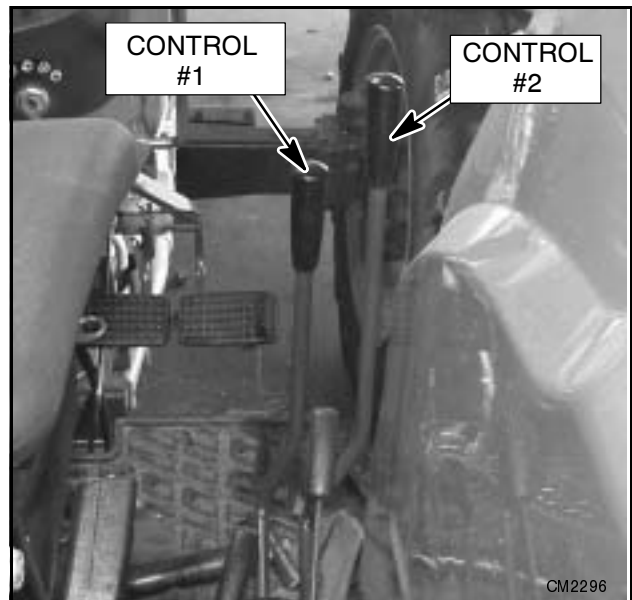

Figure 15 Tractor Hydraulic Control Levers
2. Check that all hydraulic control lever positions operate the loader movements correctly as shown in Figure 15.